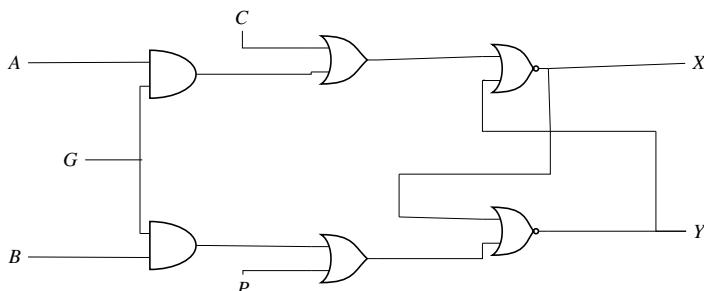

Fig. 5.27
30. For the fallowing circuit Fig. 5.27, the correct logic values for the entries X_2 and Y_2 in the truth table in Table 5.2 are (GATE PH 2019)